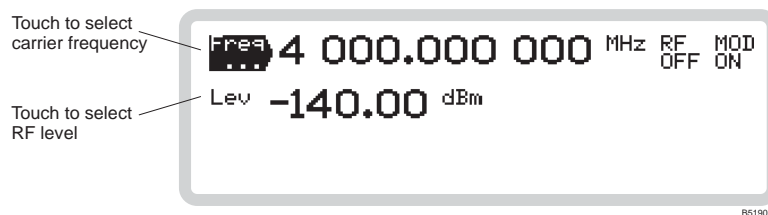

Fig. 3-17 Main screen
Press **SIG GEN** to see the main screen (Fig. 3-17), from which you can set up parameters associated with the instrument's carrier frequency and RF level.
- 1 Touch to select the RF level menu on the main screen (Fig. 3-17).